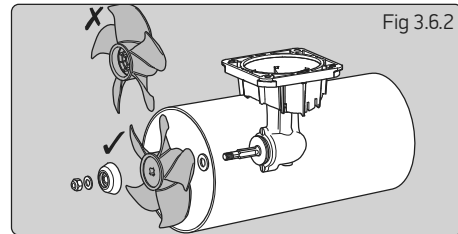

Fig 3.6.2
- Fig 3.6.2 - Tighten hub/saddle bolts to 9 Nm (6.6 lb.ft) for 140 /125 or 21 Nm (15.5 lbs.ft) for 185.